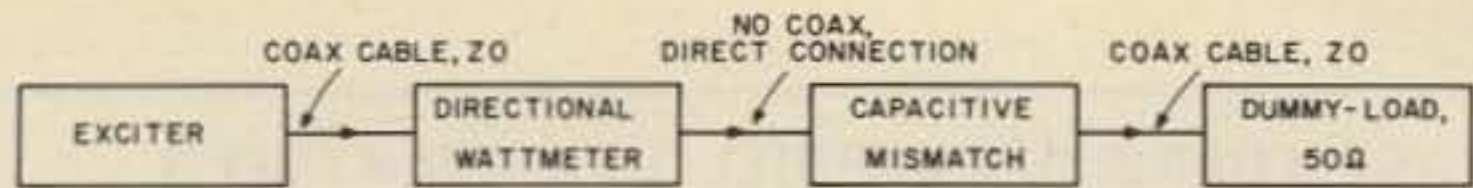

Fig. 2. Measurement circuit for calibration of the capacitive mismatches at the rf operating frequency.
1. Measurement circuit in Fig. 2 was constructed. Two capacitors were selected for use in the capacitive mismatches, corresponding to